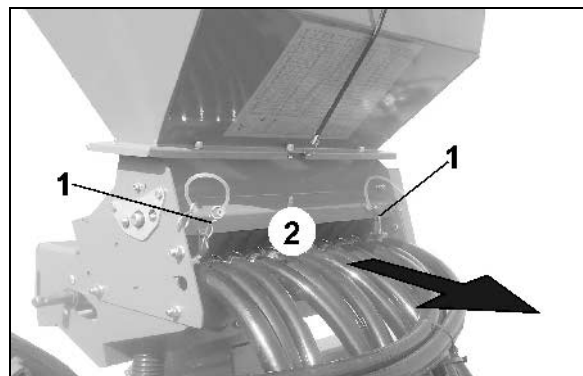

Fig. 23
2. Pull out both lynch pins (Fig. 23/1) .
3. pull out the metering unit (Fig. 23/2) to the rear until its stop.